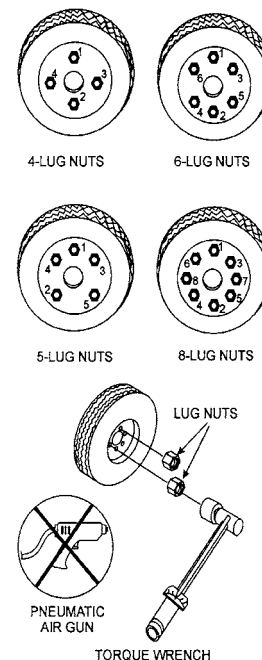

Figure 27. Wheel Lug Nuts Tightening Sequence
2. Torque all lug nuts in sequence. See Figure 27. **DO NOT** torque the wheel lug nuts all the way down. Tighten each lug nut in 3 separate passes as defined by Table 11.
11. Mount and tighten wheels. See Table 11 for tire torque requirements and Figure 27 for tightening sequence.